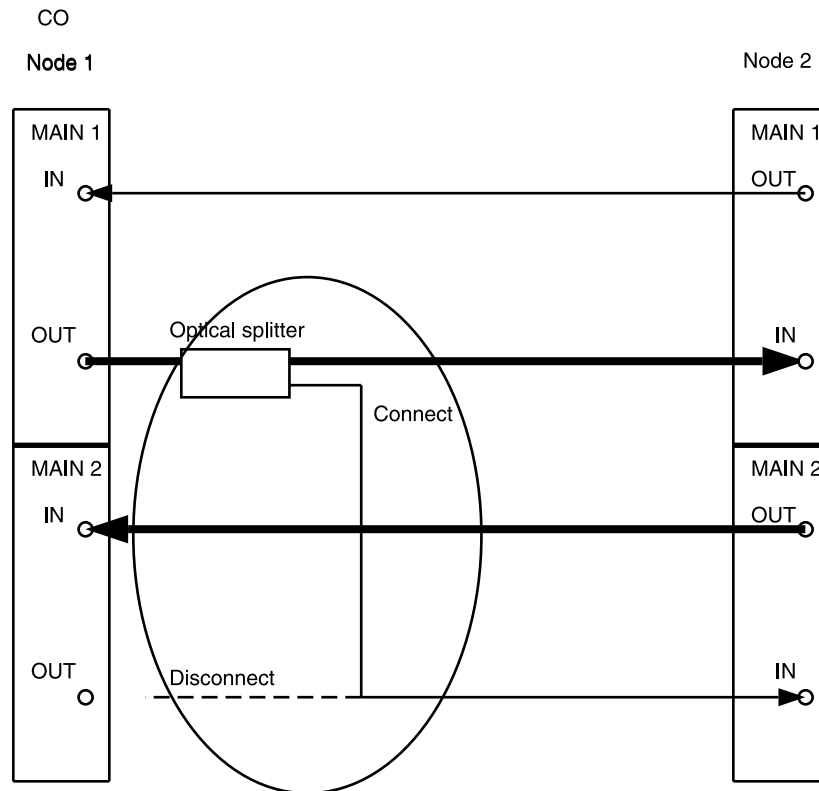

Figure 4 – DDM-2000 OC-3 Point-to-Point to Ring Upgrade
14. At Node 1, remove optical fiber from **OLIU MAIN 2(P) OUT** and connect it to the other output of the optical splitter. (See Figure 4.)